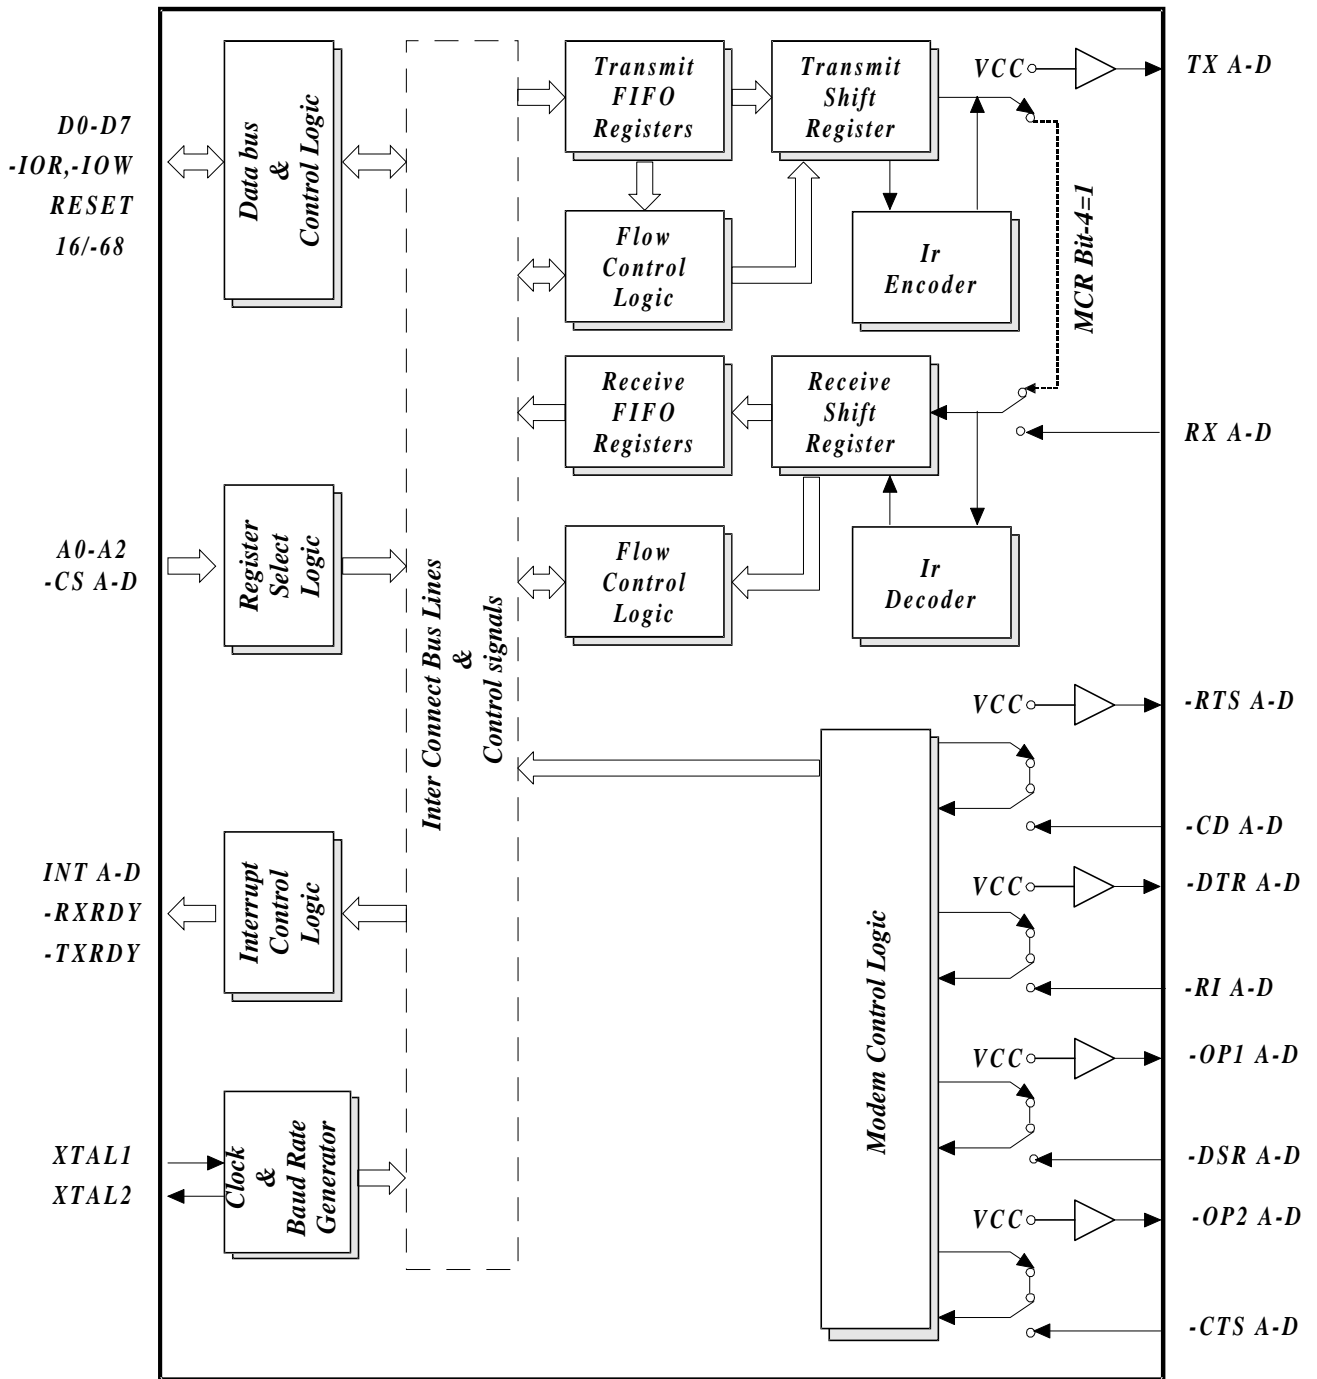

Figure 6, Internal Loop Back Mode Diagram, shown for channel A/B/C/D.
The transmitter output (TX) and the receiver input (RX) are disconnected from their associated interface pins, and instead are connected together internally (See Figure 6). The -CTS, -DSR, -CD, and -RI are disconnected from their normal modem control inputs pins, and instead are connected internally to -DTR, -RTS, -OP1 and -OP2. Loopback test data is entered into the transmit holding register via the user data bus interface, D0-D7. The transmit UART serializes the data and passes the serial data to the receive UART via the internal loopback connection. The receive UART converts the serial data back into parallel data that is then made available at the user data interface, D0-D7. The user optionally compares the received data to the initial transmitted data for verifying error free operation of the UART TX/RX circuits.